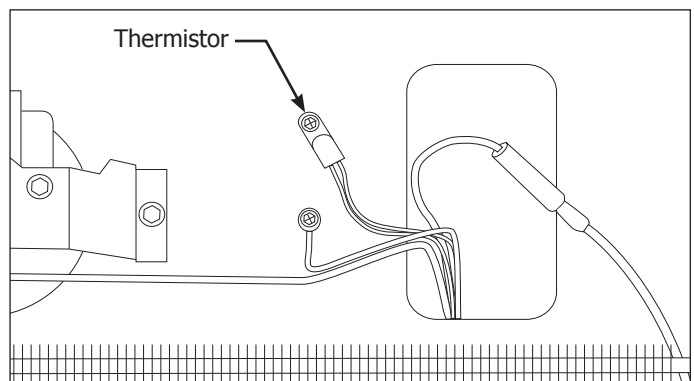

Figure 5-19. Defrost Thermostat Removal
The defrost thermostat is secured with a retaining clip to the evaporator outlet tube located on the upper left corner of the evaporator assembly. (See Figure 5-19)
2. Extract the phillips screw securing the thermistor to the back wall. (See Figure 5-19)